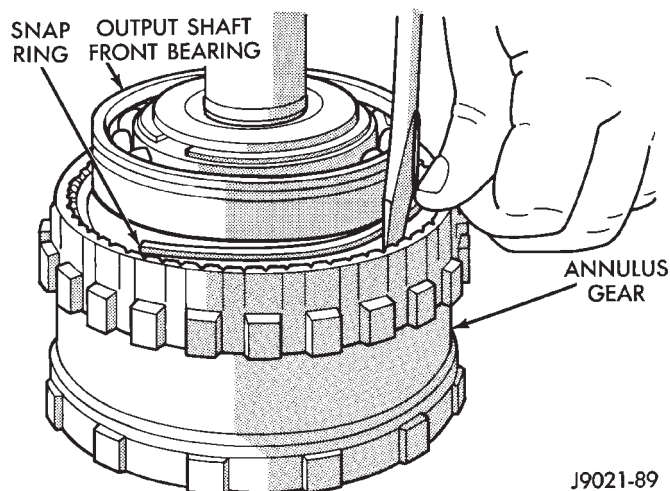

Fig. 29 Clutch Drum Outer Retaining Ring Removal
(8) Remove direct clutch drum outer retaining ring (Fig. 29).